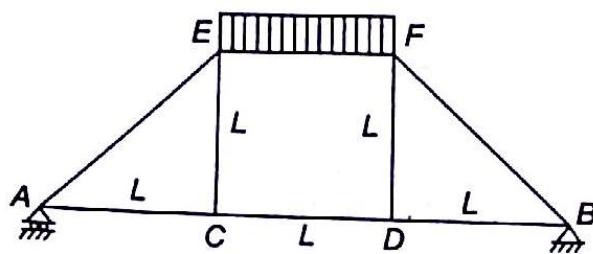

Fig. 4.54
4.25 A truss consists of horizontal members (AC, CD, DB and EF) and vertical member (CE and DF) having length L each. The member AE, DE and BF are inclined at 45° to the horizontal. For the uniformly distributed load 'p' per unit length as the member EF of the truss shown in Fig. 4.54, force in the member CD is